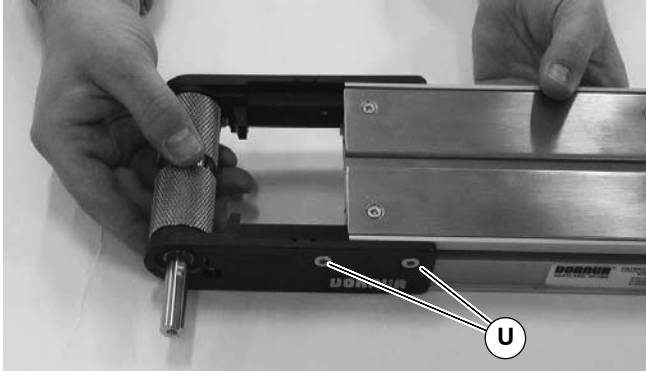

Figure 34
1. On both sides of conveyor, loosen two (2) fastening screws (U of Figure 34). Then slide drive pulley assembly out from the conveyor frame.